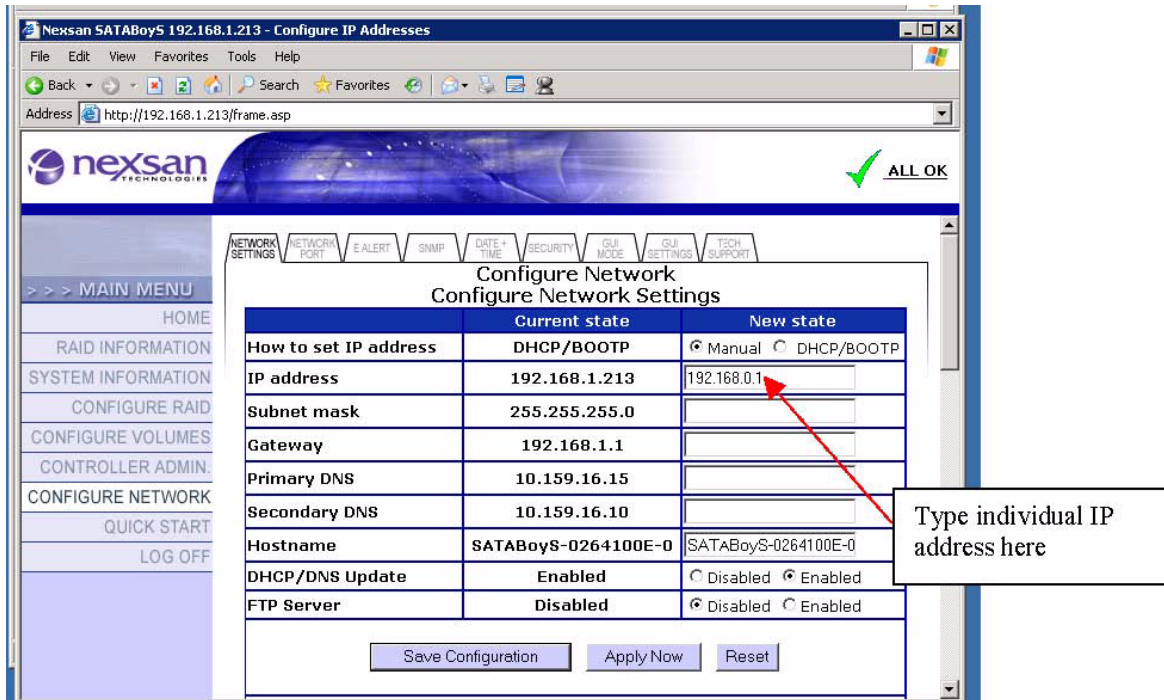

Figure 5
5. On the Configure Network, type **X.X.X.X** next to the IP address where X.X.X.X is the individual address assigned to each SATABoy. 192.168.0.2 is the sample IP address. (See Figure 5)
2. Highlight the address bar and type **X.X.X.X** where X.X.X.X was chosen under Network Setting. (See Figure 5)
2. High light the address bar and type X.X.X.X where X.X.X.X was chosen under Network Setting. (See Figure 5)